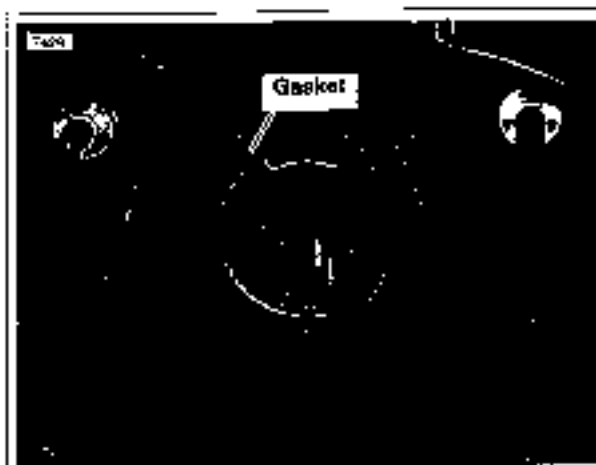

Figure 1-53. Gasket Installation
3. See Figure 1-53. Remove the drain screws from the bottom of each fork and drain the fork oil.
1. See Figure 1-53. Position new gasket on backplate.